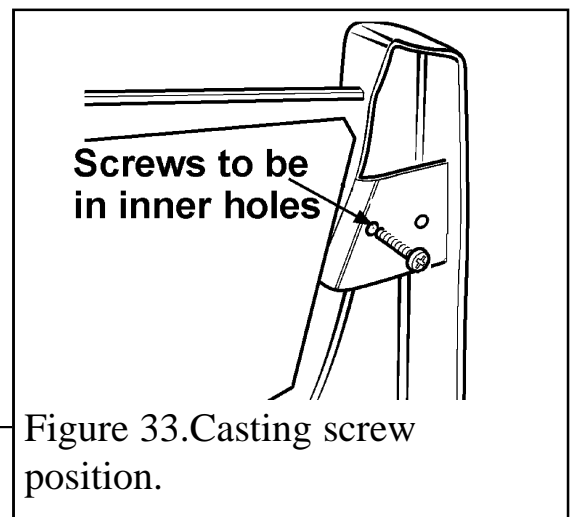

Figure 33. Casting screw position.
1. Check that the two screws in the back of the fire front casting are in the inner threaded holes. If they are in the outer holes, relocate them (See figure 33).